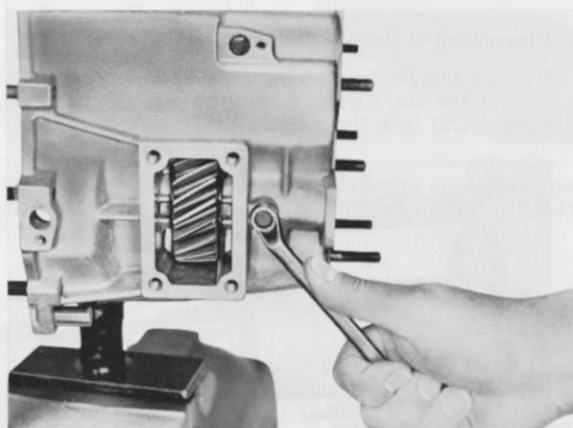

Fig. 17
1. Undo the screws (118) and take off the cover plate (117).
2. Remove the set screws (507) from the housing (Fig. 17) or pull out the dowel (511). Pull out the reverse idler shaft
2. Insert screws (507) with spring washer (506) (underneath) and tighten to 2,0 to 2,5 kpm (see Fig. 17). The securing bolt must come to lie behind the shaft (not in the groove). On various gearbox types a dowel (511) must be put through the housing into the shaft bore.
3. Fasten gasket (116) and cover (117) onto the housing with set screws (118) and spring washers (103) (underneath). Tighten torque of the screws to 2 to 2,5 kpm.